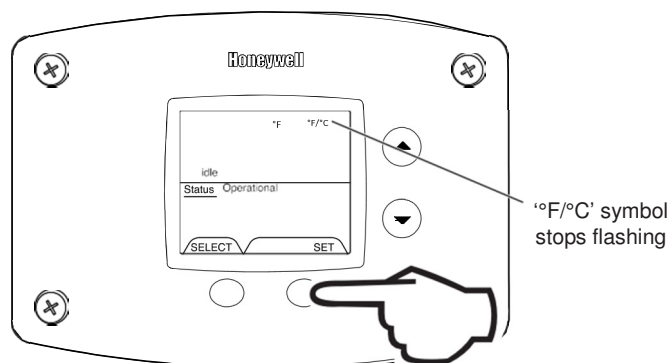

Fig. 58
4. Press 'Set' button to confirm °F or °C format. °F/°C will stop flashing (Fig. 58).